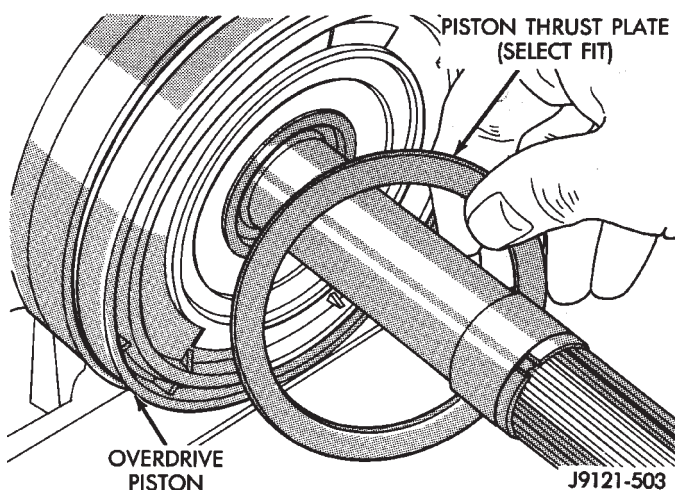

Fig. 5 Removing Overdrive Piston Thrust Plate—46RH
- (7) Remove thrust plate from overdrive piston (Fig. 5).